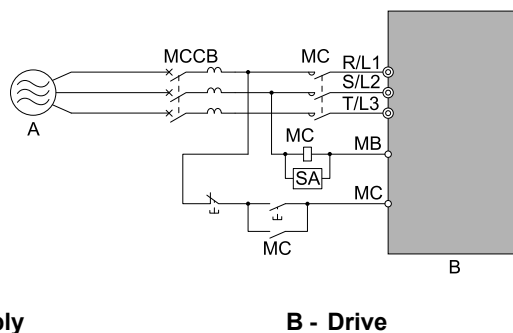

Figure 3.100 Connect an MCCB
- When you connect more than one drive or the drive and other device to an MCCB or GFCI, refer to Figure 3.100, use a magnetic contactor (MC), and set a sequence that de-energizes the drive when it outputs errors.